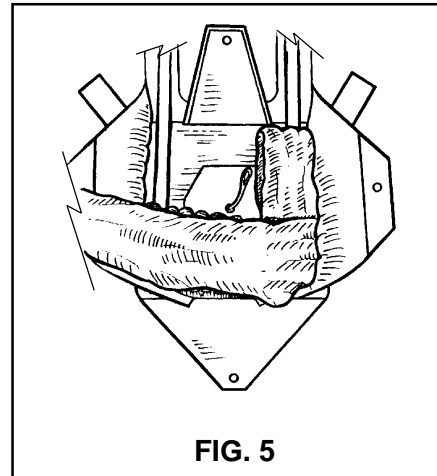

FIG. 5
6. Fold the canopy up and down the right side of the container, then make a fold across the bottom of the container, on top of the diaper or skirt **(FIG. 5)**.